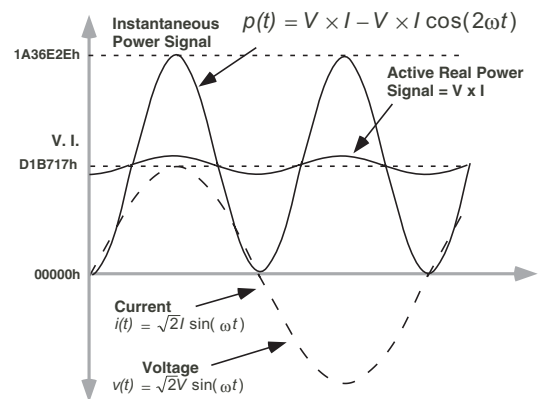

Figure 20- Active Power Calculation
P is referred to as the Active or Real Power. Note that the active power is equal to the DC component of the instantaneous power signal $p(t)$ in Equation 5, i.e., VI. This is the relationship used to calculate active power in the ADE7754 for each phase. The instantaneous power signal $p(t)$ is generated by multiplying the current and voltage signals in each phase. The DC component of the instantaneous power signal in each phase (A, B and C) is then extracted by LPF2 (Low Pass Filter) to obtain the active power information on each phase. This process is illustrated graphically on Figure 20. In a polyphase system, the total electrical power is simply the sum of the real power in all active phases. The different solutions available to process the total active power are discussed in the following paragraph.
As mentioned in the last section, the discrete time sample period (T) for the accumulation register is 0.4μs (4/CLKIN). With full-scale sinusoidal signals on the analog inputs and the Watt Gain registers set to 000h, the average word value from each LPF2 is D1B717h - see Figures 20 and 22. The maximum value which can be stored in the Active Energy register before it overflows is 2²³ -1 or 7F,FFFFh. As the average word value is added to the internal register, which can store 2⁵³ - 1 or 1F,FFFF,FFFF,FFFFh before it overflows, the integration time under these conditions with WDIV=0 is calculated as follows: